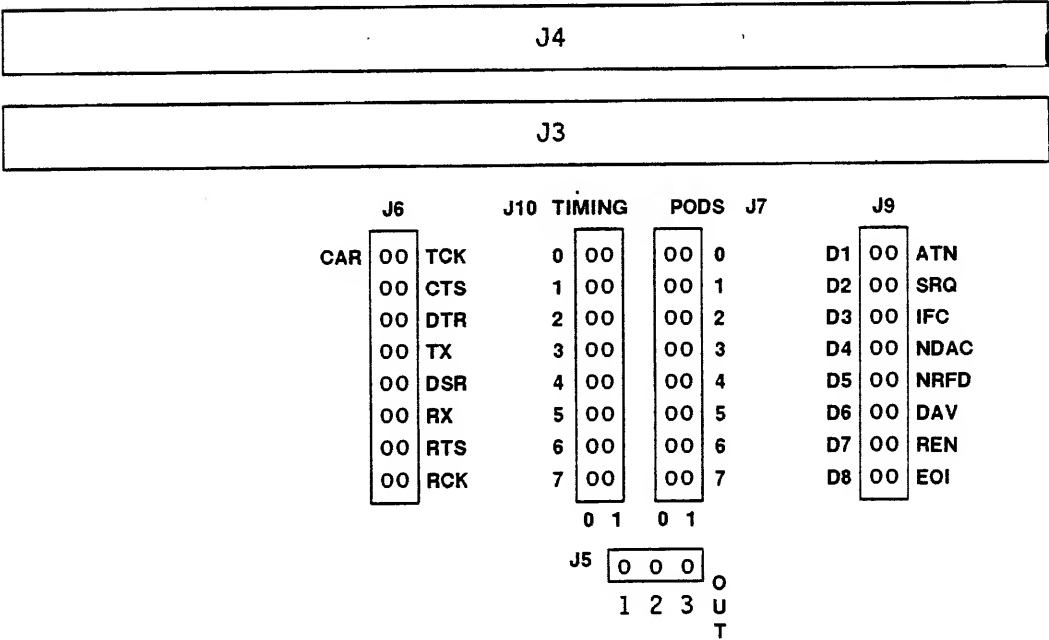

Figure 4-1. HP-IB Timing Connector Locations
1. On the HP 10342B, connect the ribbon jumper cable from J7 to J9. All 16 possible timing channels are connected when the jumper cable is used (see figure 4-1).
2. If you want to connect any data or control lines to the front-panel outputs, use the small jumper wires to connect the pins from J10 to the pins of J5 (see figure 4-1). When the mass-connect jumper cable is used, the signals at J10 correspond to the mnemonics at J9.